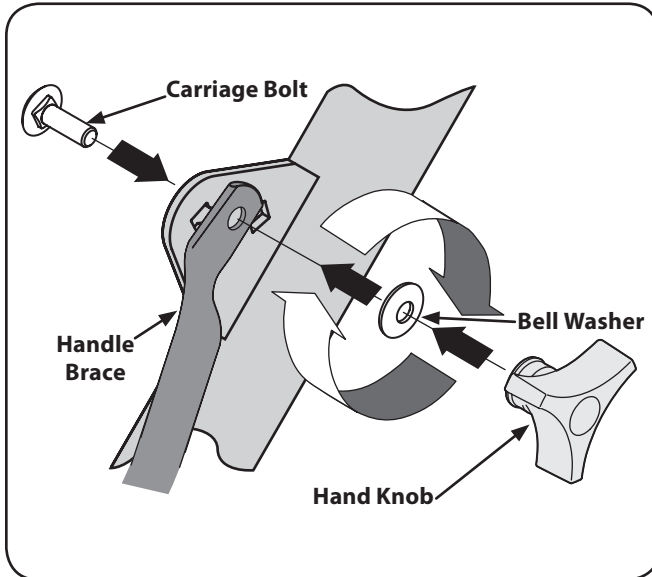

Figure 3-4
7. Tighten the bolt securely after securing the handle brace as seen in Fig. 3-4.
9. Insert the carriage bolt through the welded bracket on the handle, bell washer, handle brace and into the hand knob. See Fig. 3-4.
10. Select one of the three handle height positions (three notches in the welded handle bracket) and tighten the hand knob to secure the handle in the desired position. Fig. 3-4. Return to the lower handle and tighten the hex bolt securely.